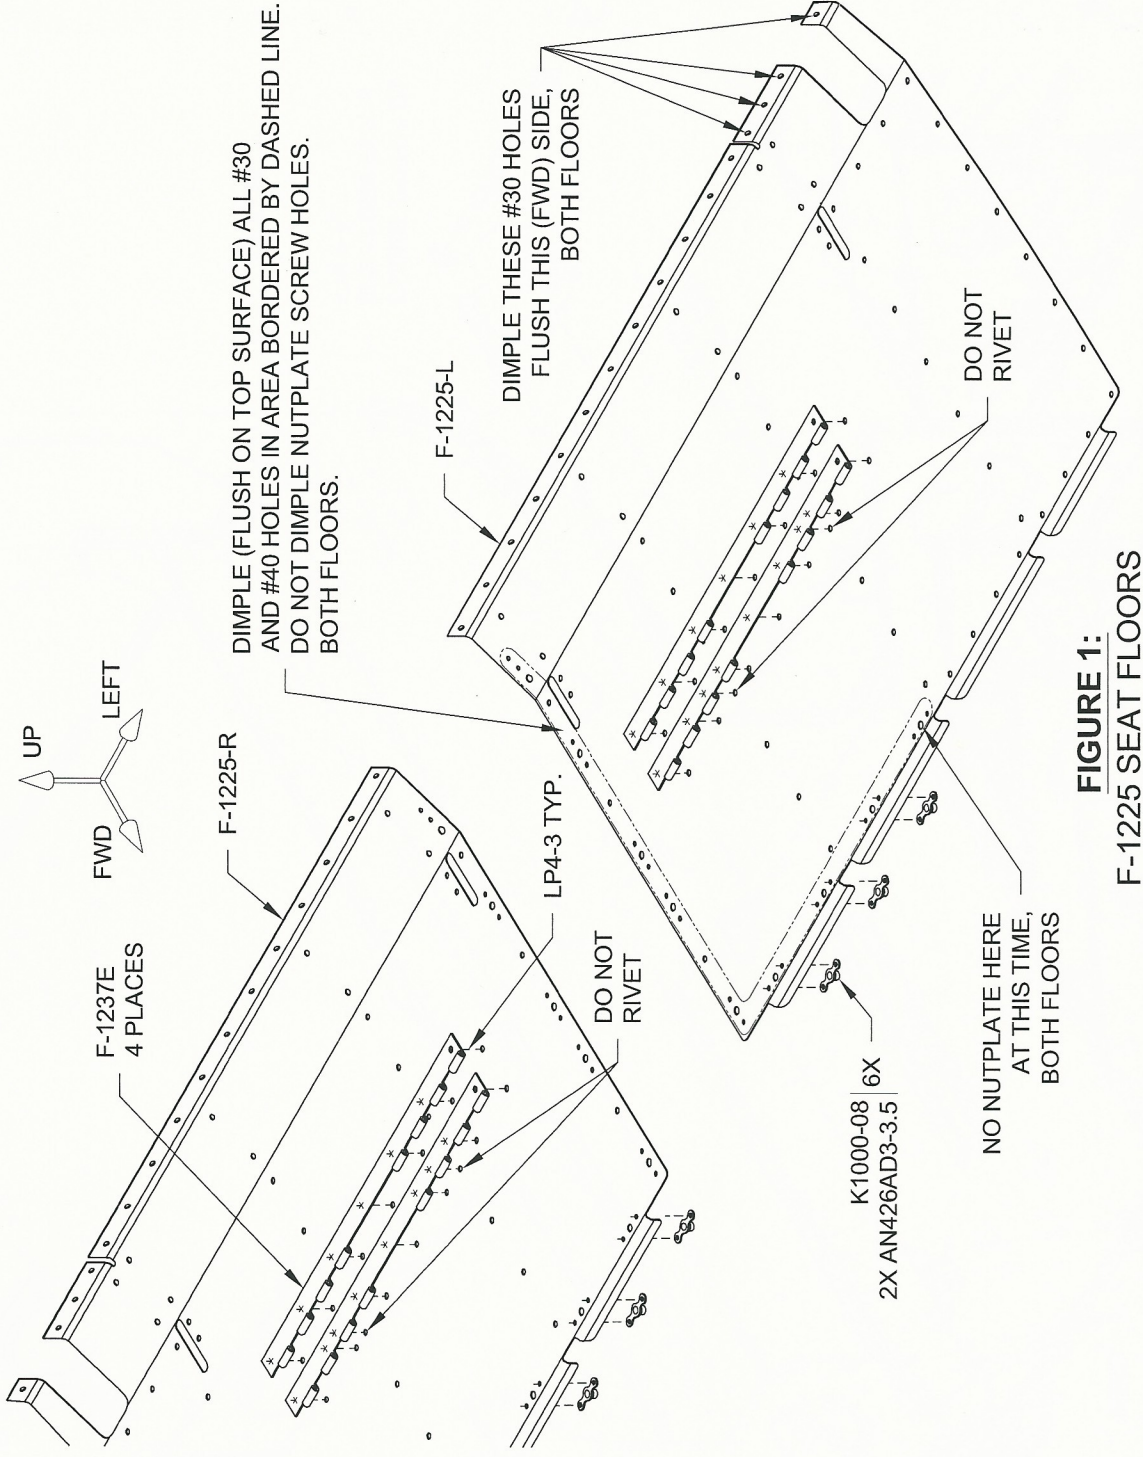

FIGURE 1:
Step 1: Using the locating holes drilled on Page 21-6 Step 7, cleco the F-1237E Seatback Hinges to the F-1225-L & -R Seat Floors as shown in Figure 1. Center the lines drawn on Page 21-6 Step 8 on the holes in the seat floors, then match-drill #30 the holes into the seatback hinges. Remove and deburr the holes.
Step 2: Except for the holes that will be used to attach the seat floor ribs (indicated in Figure 1), rivet the F-1237E Seatback Hinges to the F-1225-L & -R Seat Floors using the rivets called out.
Step 3: In both F-1225-L & -R Seat Floors, dimple the four holes in the aft flanges and the holes along the forward and inboard edges as indicated in Figure 1.
Step 4: Dimple the six nutplates, shown in Figure 1, along the forward edge of the F-1225-L & -R Seat Floors, then rivet them to the seat floors using the rivets called out.